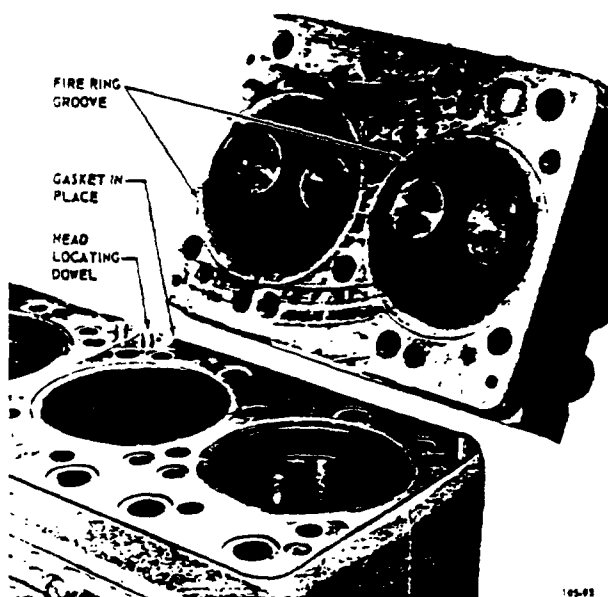

Figure 2-22. Gasket and Cylinder Head Over Cylinder Block
3. Check gasket position. Be sure that all passages are open and not blocked by the gasket. See Figure 2-22.